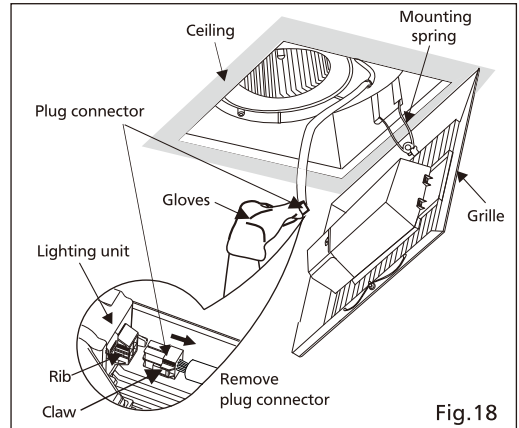

Fig.18
1. Remove grille by pulling down one mounting spring. Remove plug connector then pull down the other mounting spring. (Squeeze mounting spring and pull down carefully) (Fig.18)